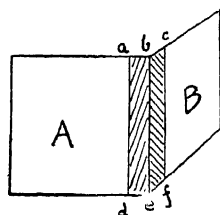

FIG. 2
(2) Using paper hinges. The hinge should extend the whole length of the edges that come together, as in Fig. 2,